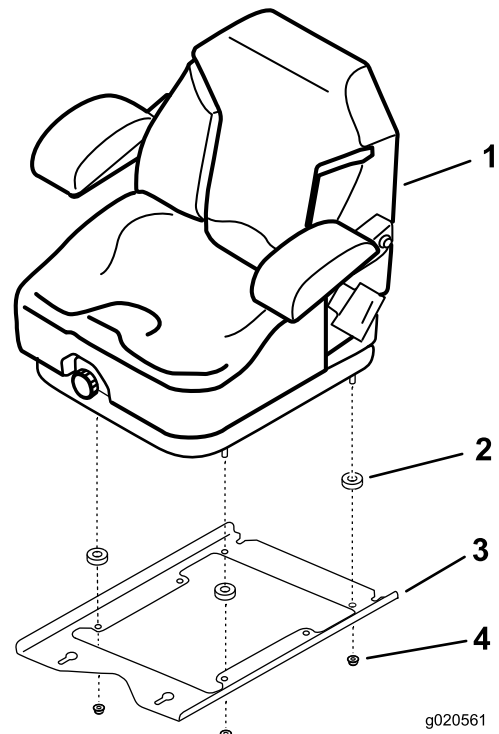

Figure 7
2. Install a spacer onto each seat stud (Figure 7).
3. Secure the seat frame to the seat with 4 flange nuts (5/16 inch) (Figure 7).